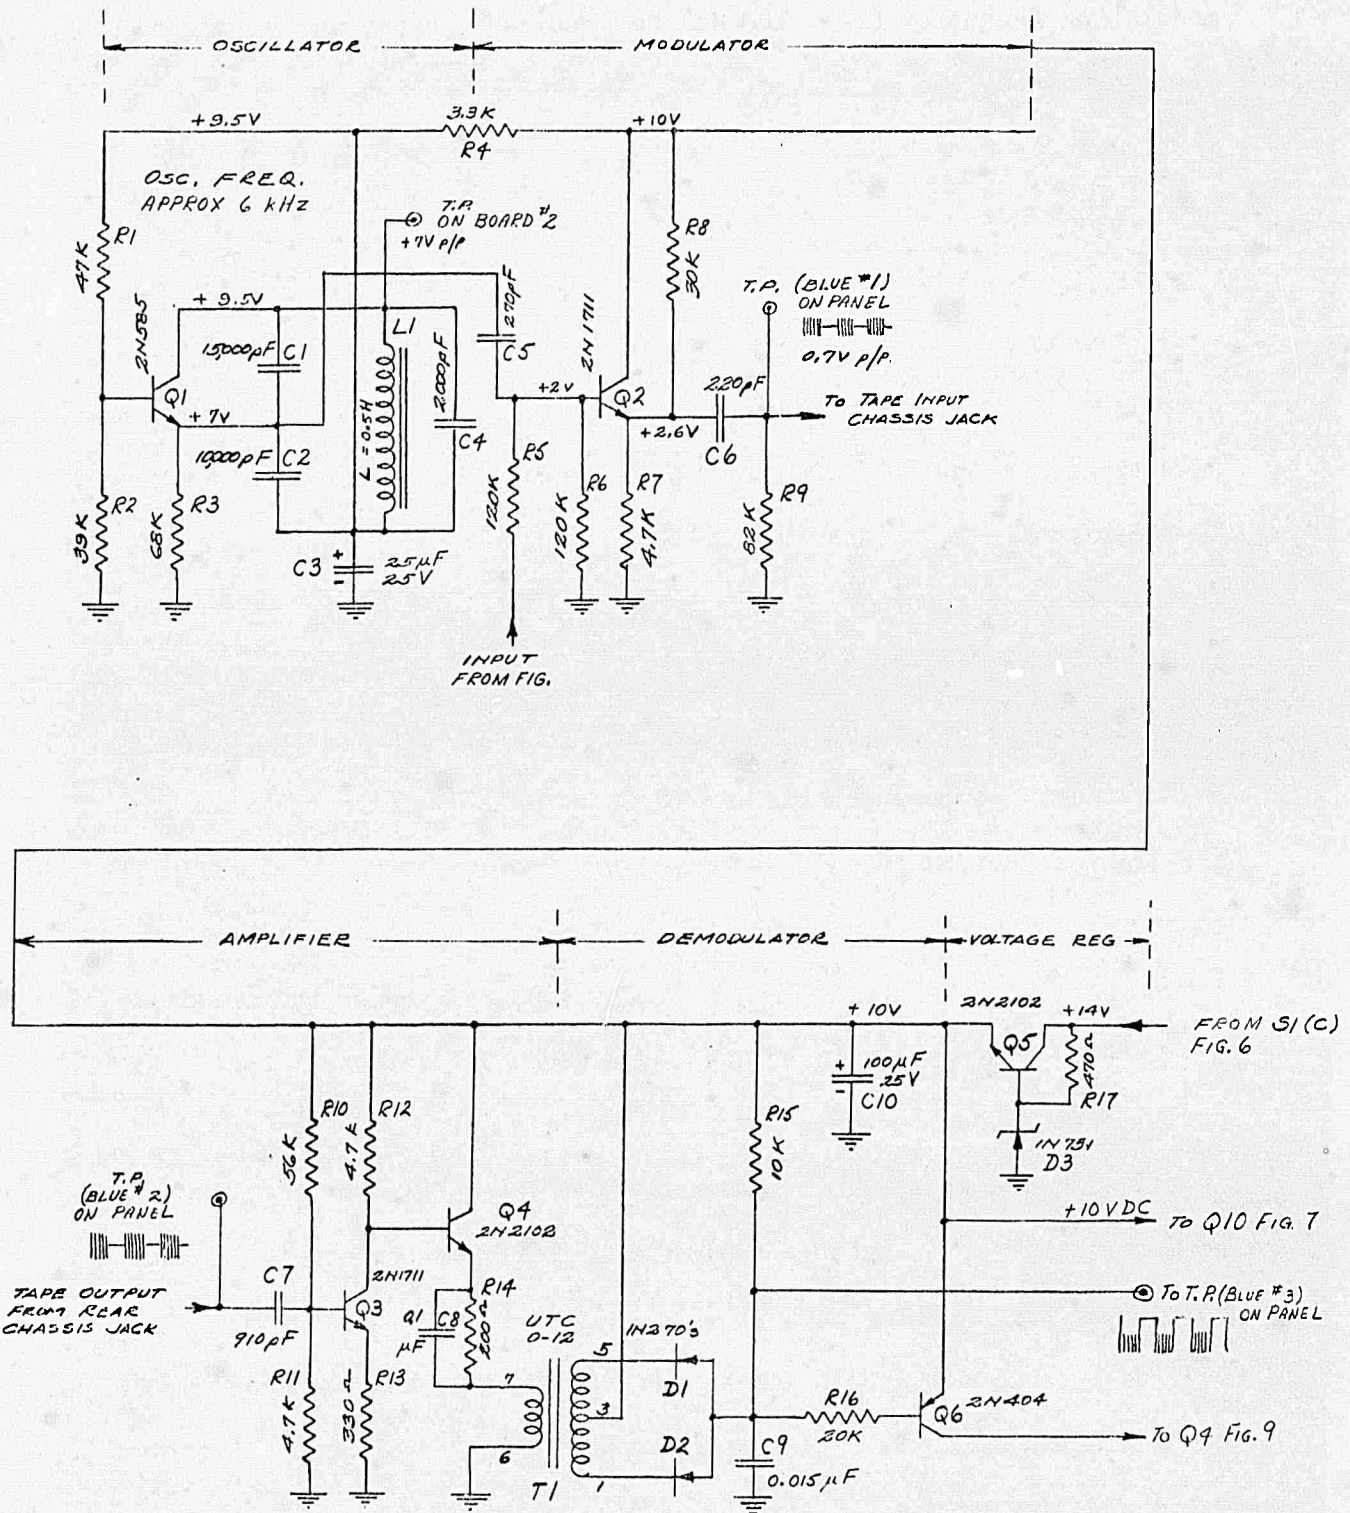
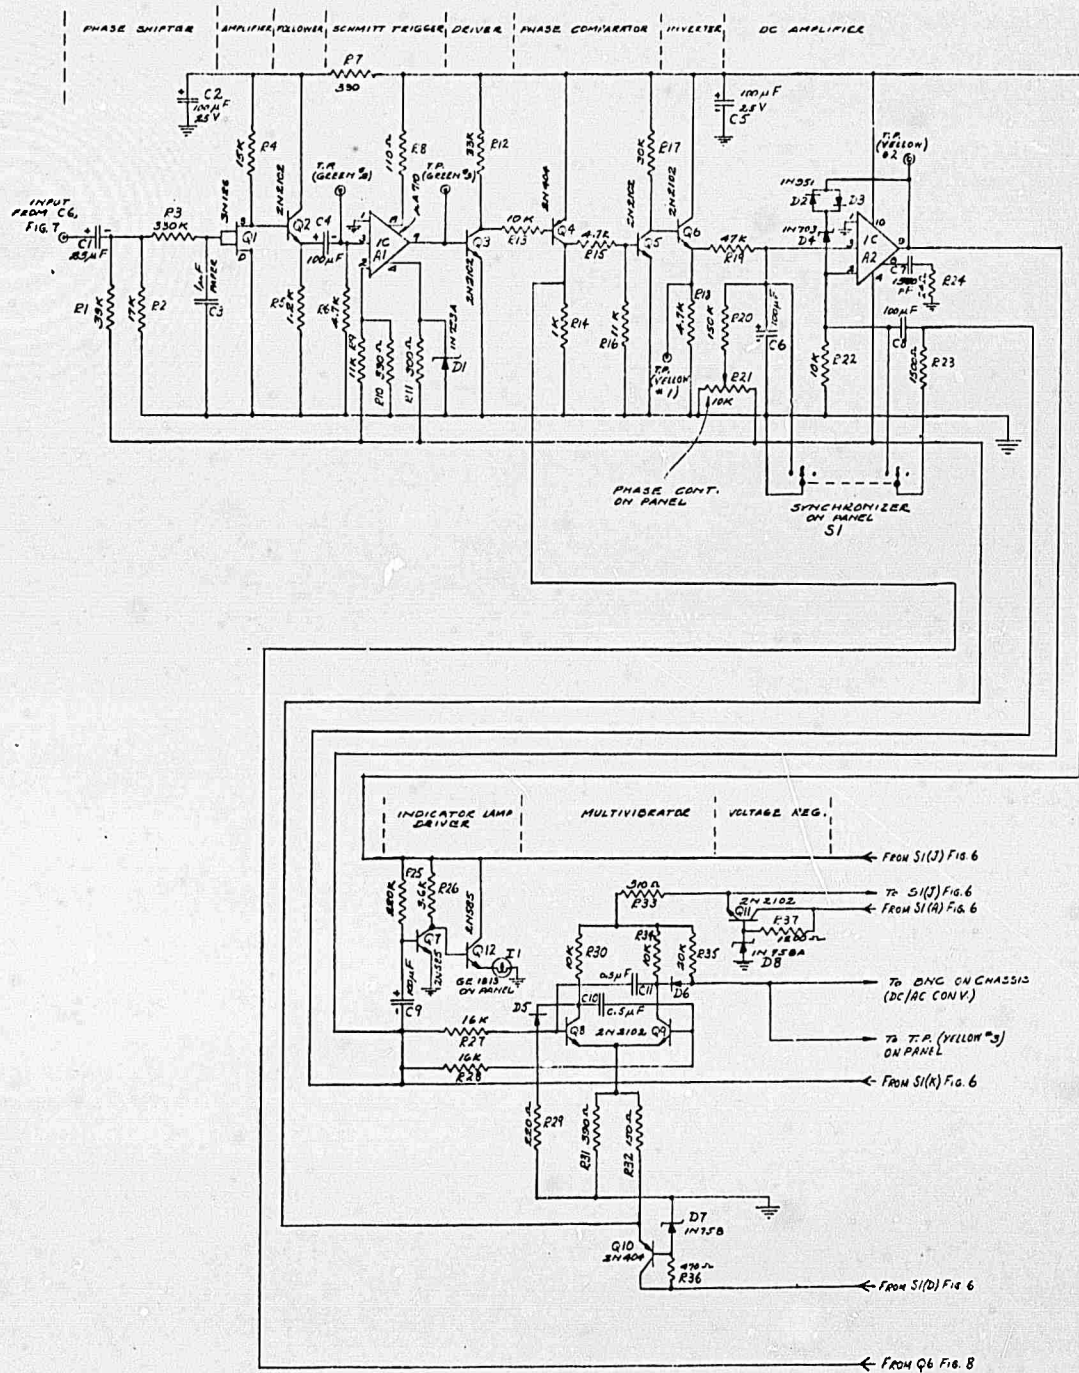
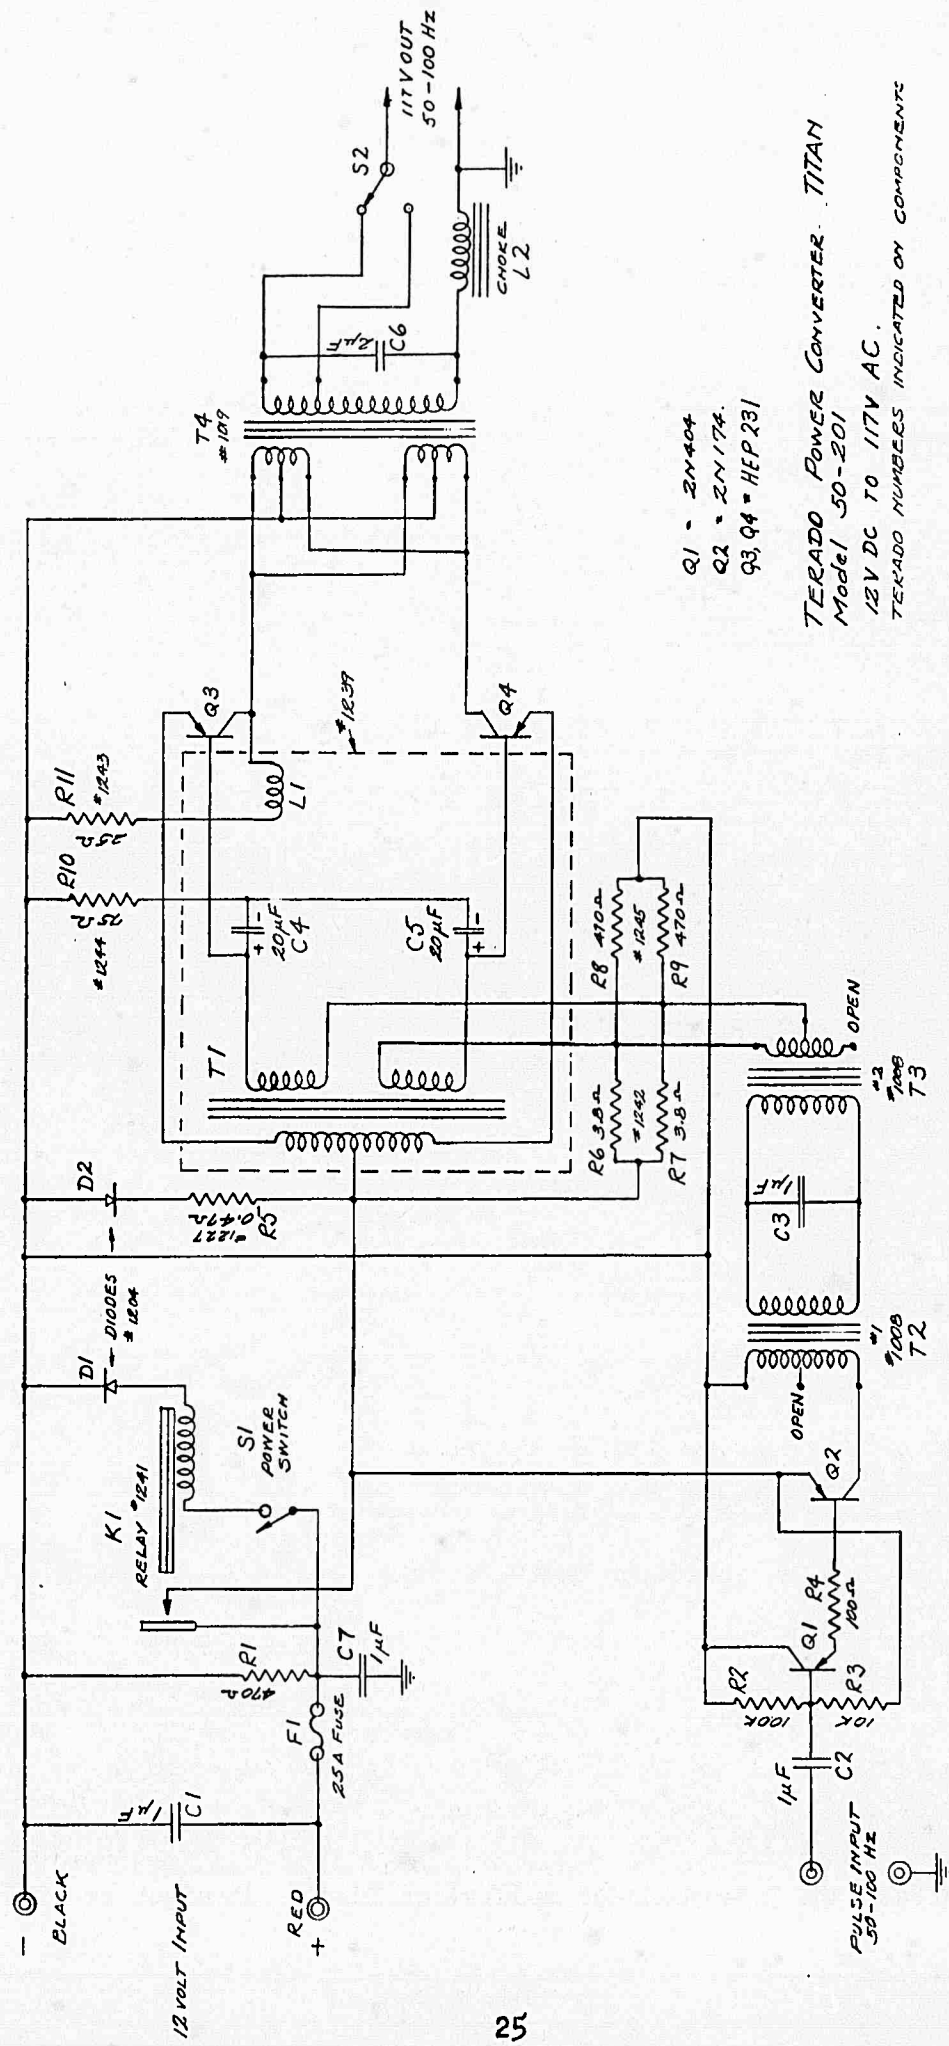

Figure 8. Tape-Deck Control-Channel Modulator/Demodulator (Board No. 2), Schematic Diagram
Figure 9. Tape-Deck Delay Servo System (Board No. 3), Schematic Diagram
Figure 10. DC-to-AC Converter, Schematic Diagram
4. Blue Test Points\* (Fig. 8)
8. STABILITY Indicator (I1, Fig. 9)
9. PHASE Control (R21, Fig. 9)
10. SYNCHRONIZER Switch (S1, Fig. 9)
13. Yellow Test Points\* (Fig. 9)
14. Green Test Points\* (Fig. 9)
### 3.1.2 Modulator/Demodulator (See Fig. 8)
The demodulator is severely RC undercoupled into a single amplifier stage (Q6) with a gain of about 15, so as to remove the remaining low-frequency components plus any that accumulate within the Tape Deck electronics for any reason, including the rectification of remanent RF energy from the Retransmitter. A direct-coupled emitter follower (Q4) feeds a push-pull peak rectifier (T1, D1, D2), thus recovering the original modulating waveform envelope except for some residual carrier. It was possible to reproduce the original phase extremely closely, partly because it was a square wave, where zero crossings are most important. The recovered wave drives a pnp transistor (Q6), which is really part of the phase-comparator or combining circuit (Fig. 9). The phase-comparator output eventually automatically regulates the tape speed, so that the comparator output is the DC equivalent to a one-quarter-duty-cycle pulse train.
### 3.1.3 Quadrature (90° Lag) Circuit (See Fig. 9)
#### 3.1.4 Phase Comparator (See Fig. 9)
The phase comparator (Q4) is the heart of the servo system; it compares the phase of the Tape-Deck-delayed wave from (Q6, Fig. 8) with that of the  $90^\circ$ -shifted wave. Its output is RC averaged (R19 and C6, Fig. 9) and amplified (A2) and used to control the frequency of an oscillator (multivibrator, Q8, Q9). The oscillator, in turn, determines the tape speed and, thus, the delay applied to the Tape-Deck inputs, and the Tape-Deck outputs feeding back to the comparator.
The main function is performed by coupling the outputs of two electronic switches (Q6, Fig. 8; and Q4, Fig. 9) to a single resistor (R14, Fig. 9). Each switch applies the same voltage, resulting in an output of positive pulses with varying duty cycle. When the tape-caused delay is exactly  $180^\circ$  (half a chopping cycle), a three-quarter-duty-cycle wave results. This is reversed to become a one-quarter-duty cycle, which is then averaged and amplified as DC(A2). This DC equivalent to the one-quarter duty cycle is balanced out with negative bias applied to amplifier A2; in effect, then, the phase comparator output is zero. Any variations from this zero condition would be due to servo errors (about  $\pm 2^\circ$ ), and it is these variations (error voltages) that are amplified, as positive or negative control voltages for the multivibrator.
The bias applied to A2 to balance out the phase comparator output is adjustable by means of a front-panel control (R21, Fig. 9 and 9, Fig. 5). This control, once set, seldom requires readjustment, so long as accumulated servo errors remain fixed in terms of angles.
control voltage to zero, so that the servo will lock up automatically at the nearest valid condition (half-wave) to zero. Depressing the SYNCHRONIZER Switch (S1, Fig. 9 and 10, Fig. 5) momentarily sets up the zero-control-voltage (center-frequency) condition; on its release, the instantaneous error voltage determines the direction of control.
### 3.1.5 Servo Stability Indicator (See Fig. 9.)
The STABILITY Indicator Lamp (8, Fig. 5, and 11, Fig. 9) is connected to a lamp driver circuit (Q7, Q12) fed by the phase-comparator output amplifier (A2).
Power-supply decoupling is an important problem, especially as the low switching rate of 10 Hz must be accommodated, and cross feeds can cause undesirable phase shifts, false Schmitt Triggering, etc. Satisfactory conventional RC decoupling circuits would be troublesome, i.e., they require very-low series-resistor values to maintain reasonable voltage stability, and very-large capacitors, to be effective at 10 Hz. To overcome this, simple voltage regulators, consisting in each case of a transistor, zener, and resistor (e.g., Q10, D7, R36, Fig. 9), have been inserted into many of the power-feed circuits. Circuit voltages under this arrangement hold steady
### 3.3 DC-TO-AC CONVERTER (SEE FIG. 10.)
The Converter is a Terado Model 50-201, designed to operate from a 12 V storage (automobile) battery. Its normal output frequency is at or near 60 Hz. As made by Terado, a mechanical vibrator determines the output frequency, and a transistor-switch arrangement (Q3-Q4) pulses the transformer (T4) to provide the desired AC output. The unit has been modified, however, so that an external signal can be used instead of the vibrator (not shown in Fig. 10), whose frequency is fixed by mechanical parameters. The external signal, which comes from the multivibrator of Fig. 9, is fed into a circuit (Q1) which, in turn, activates the same circuits as did the vibrator. Thus, the output frequency is dependent upon the frequency of the multivibrator. Note that the transistor-switch arrangement could be destroyed if an abnormally-low (below 50 Hz) vibrator excitation frequency were used, because of the consequent high magnetizing current. The modification has been designed to prevent this occurrence.